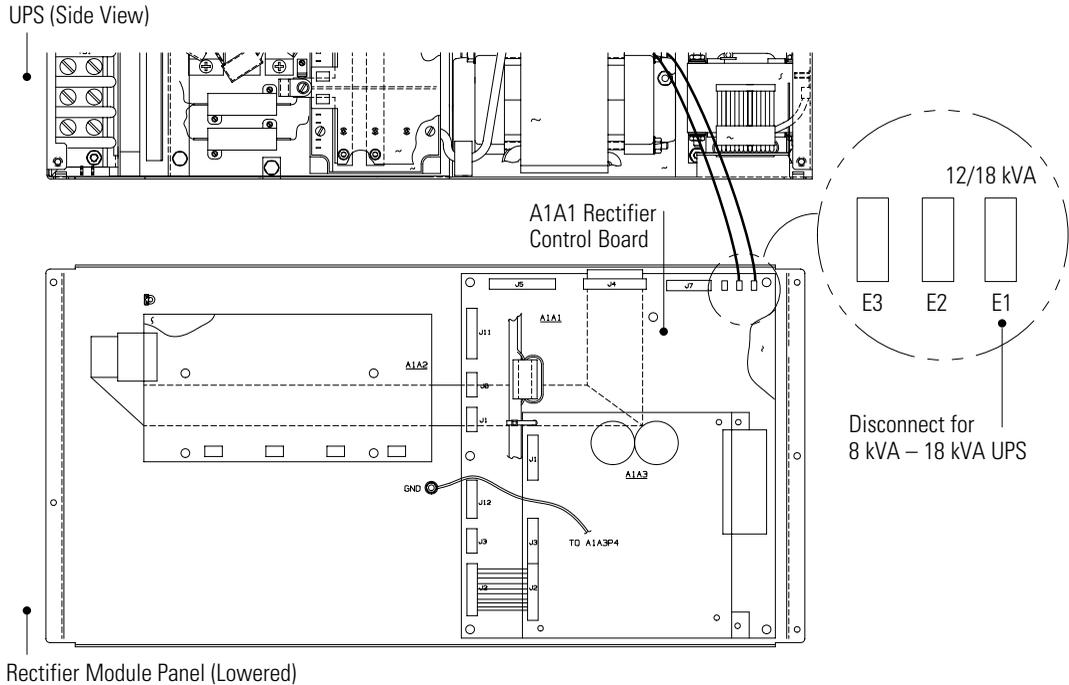

Figure 10. Rectifier Module Panel for the 8 kVA – 18 kVA UPS
8. Locate the rectifier control board (A1A1) in the back right corner of the Rectifier Module panel (see Figure 10). Remove the quick-connect from the rectifier control board labeled “12/18 kVA” or “E1.”